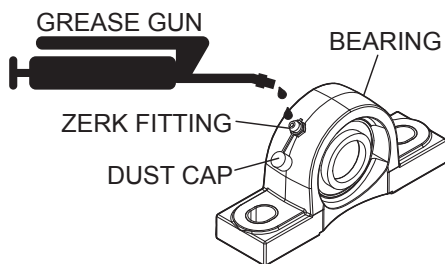

Figure 10. Bearing Lubrication
1. Remove dust caps located on top of new cross shaft bearings (Figure 10).